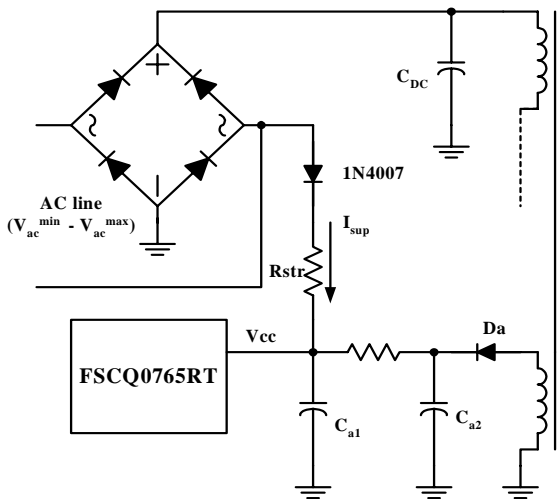
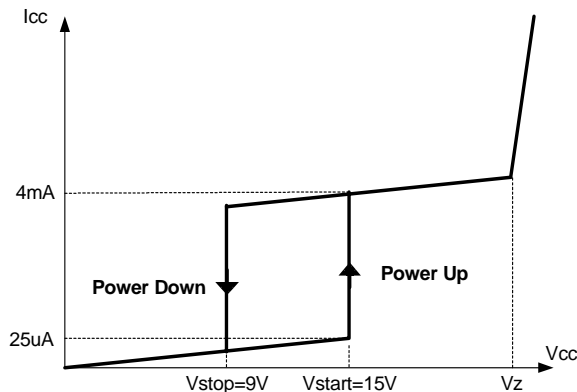

Figure 4. Startup circuit
Figure 5. Relation between operating supply current and V_{cc} voltage
1. Startup : Figure 4 shows the typical startup circuit and transformer auxiliary winding for FSCQ0765RT application. Before FSCQ0765RT begins switching, FSCQ0765RT consumes only startup current (typically 25uA) and the current supplied from the AC line charges the external capacitor (C_{a1}) that is connected to the V_{cc} pin. When V_{cc} reaches start voltage of 15V (V_{START}), FSCQ0765RT begins switching, and the current consumed by FSCQ0765RT increases to 4mA. Then, FSCQ0765RT continues its normal switching operation and the power required for this device is supplied from the transformer auxiliary winding, unless V_{cc} drops below the stop voltage of 9V (V_{STOP}). To guarantee the stable operation of the control IC, V_{cc} has under voltage lockout (UVLO) with 6V hysteresis. Figure 5 shows the relation between the FSCQ0765RT operating supply current and the supply voltage (V_{cc}).